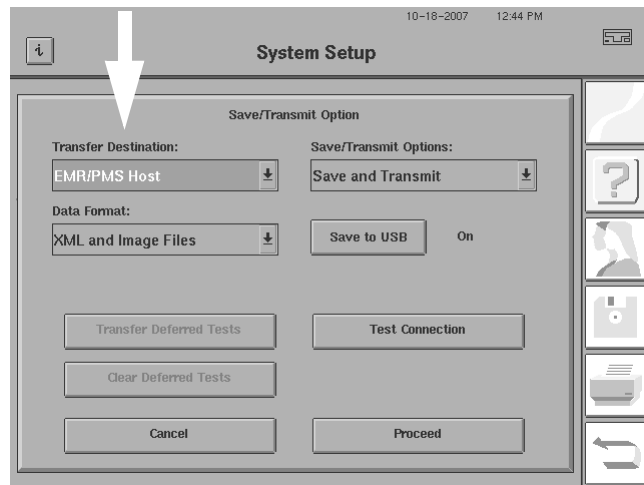
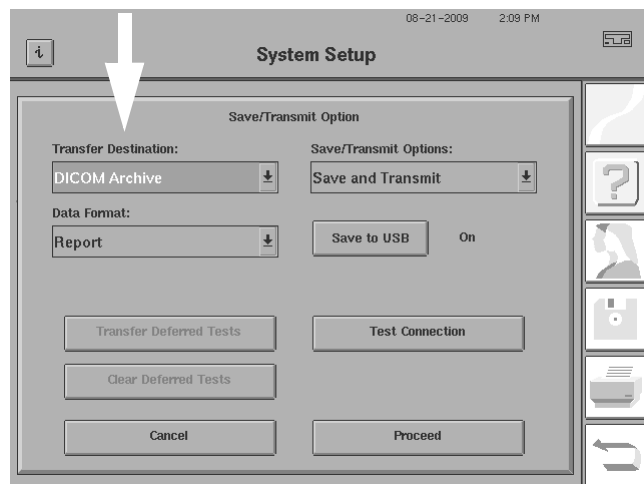

Figure I.28 Setting Transfer Destination Drop-Down Box to EMR/PMS Host
Figure I.29 Setting Transfer Destination Drop-Down Box to DICOM Archive
- 1 On the System Setup screen select SAVE/TRANSMIT OPTION to display the screen that is shown in Figure I.28.
- 2 Open the Transfer Destination drop-down box and select EMR/PMS HOST for EMR/PMS systems and DICOM systems using DICOM Gateway 1.0 (Figure I.28), or DICOM ARCHIVE for DICOM systems using DICOM Gateway 2.0 (Figure I.29).